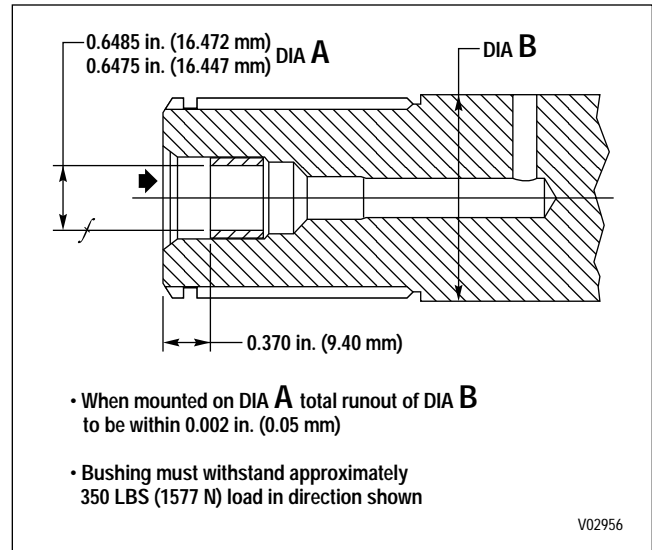
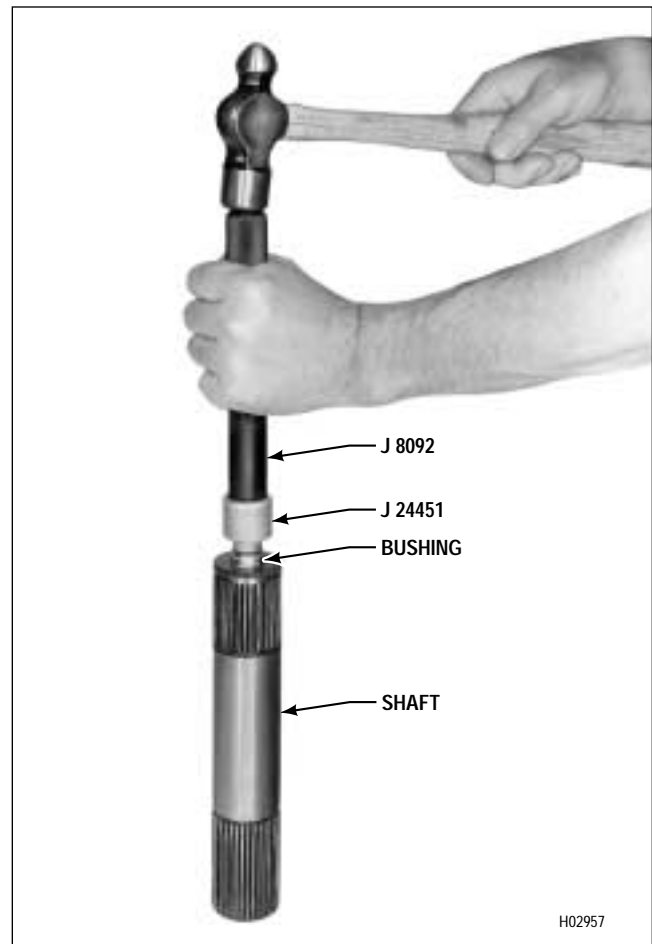

Figure 6-51. Output Shaft Assembly
Figure 6-52. Installing Output Shaft Bushing
(1) If orifice plug 49 was removed from output shaft 48, install a new plug. Press the plug clear of the chamfer.
(2) If bushing 47 was removed, install a new bushing into output shaft 48, following the specifications in Figure 6-51. Bushing installer tool J 24451 can be used along with driven handle J 8092 (Figure 6-52).